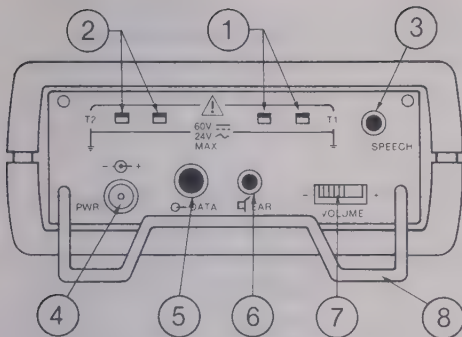

Figure 2-16. Rear Panel
The rear panel of the HHM1 provides the input connections for two Type K thermocouples, as well as several miscellaneous jacks. Each feature of the rear panel is described below and shown in Figure 2-16.
6. If you are using a thermocouple handle with a speech input plug, connect the speech plug to the speech jack on the rear panel. Refer to item 3 in Figure 2-16 in Section 2.2.6.